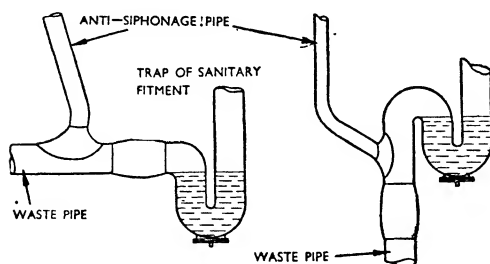

Fig. 3. Anti-siphonage pipes as often fitted on the waste pipes of sanitary appliances.
On next page, Fig. 3 shows lead pipe connexions of anti-siphonage pipes with wiped soldered joints: (A) connexion to horizontal outgo; (b) connexion to vertical outgo.